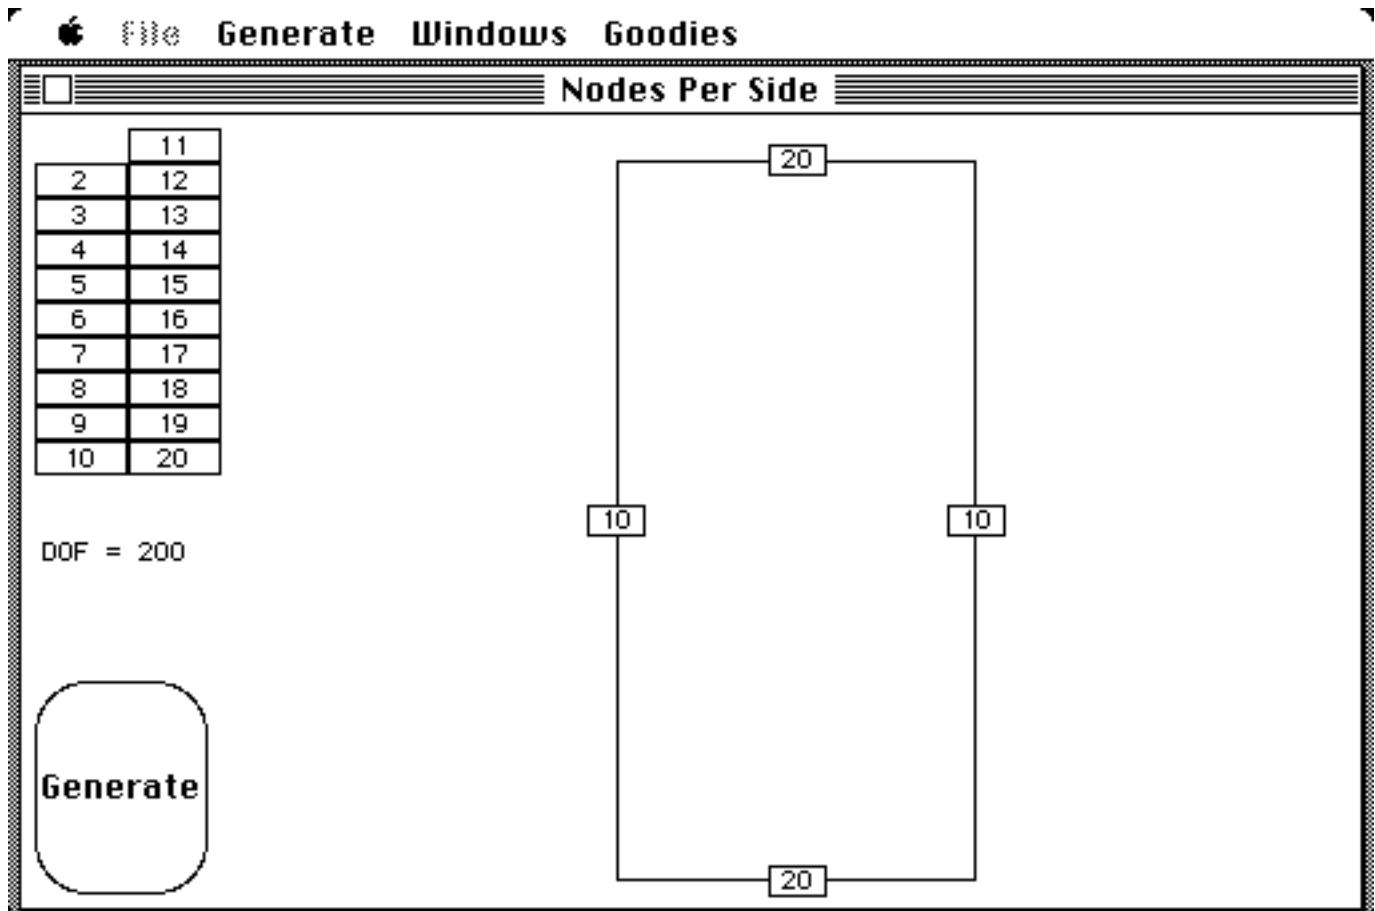
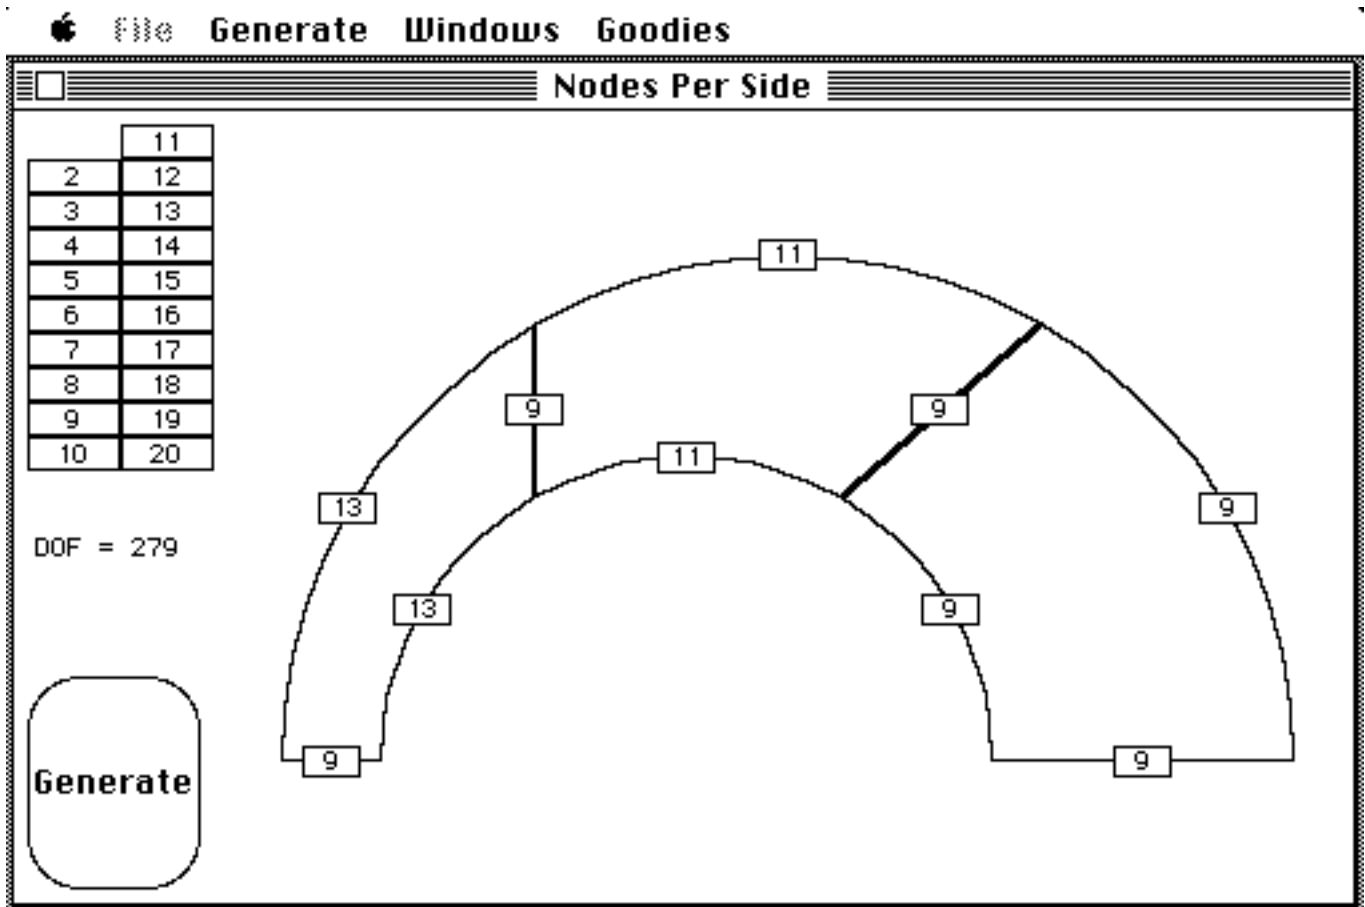

Fig 2.19 Nodes per side (Cylinder)
Fig 2.21 Nodes per side (Eccentric Cylinder)
- Click within the small rectangle on a region side (Figs 2.19 and 2.21).
The opposite side is located automatically. If multiple mesh generating regions are being used (Fig 2.21), MP identifies all sides which must share this value.
- Click on the table at the top-left corner of the nodes per side window (Figs 2.19, 2.21) to assign the value.
The heat conduction example has 10 by 20 vertices (Figs 2.19 and 2.20) and the electrostatic example (Figs 2.21 and 2.22) has 9 by 13, 9 by 11, 9 by 9. The number of equations required for these meshes is 200 and 279, respectively, as indicated by the degrees of freedom (DOF) displayed.
Elements are joined only at their nodes. Therefore, when you specify the number of nodes you want to use on a side of a mesh generating region (Figs 2.19 and 2.21), MP enforces the constraint that opposite sides of a region have the same number of nodes and that regions sharing a common boundary have the same number of nodes on the boundary. MP calculates the nodal coordinates and element connectivity.
- **Click Generate (Figs 2.19 and 2.21).**